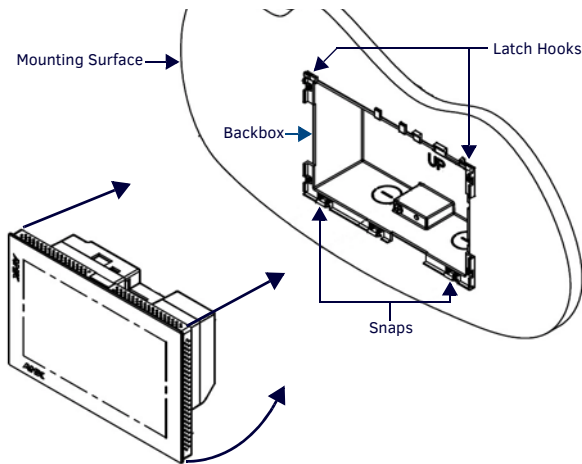

FIG. 5 INSTALLING THE MXD-701
- Latch the panel onto the top hooks on the Backbox and push it down (Landscape) onto the bottom snaps or on the left side and push it to the right (Portrait) (FIG. 5). Press gently but firmly on the ends until the snaps "click" to lock it down.